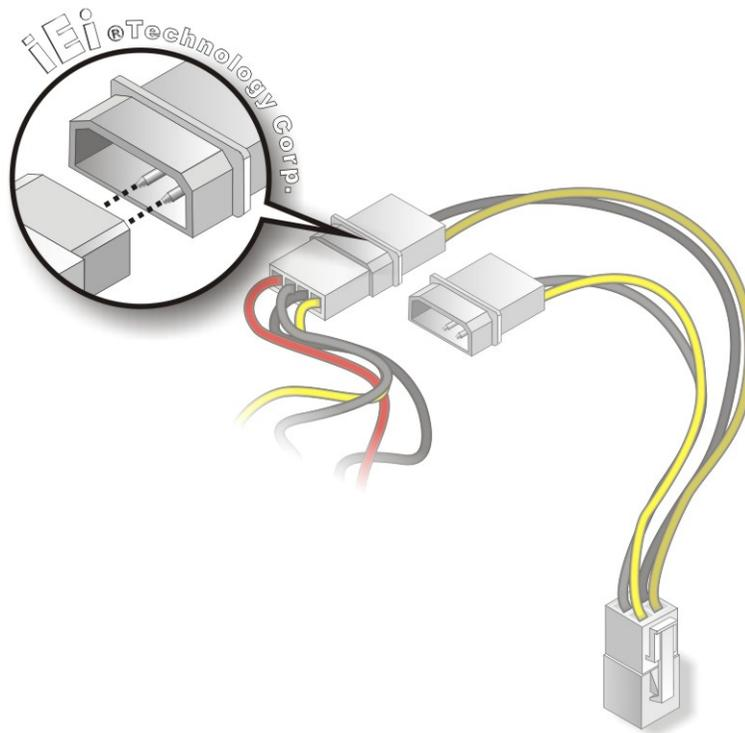

Figure 4-9: Connect Power Cable to Power Supply
Step 3: Connect Power Cable to Power Supply. Connect one of the 4-pin (1x4) Molex type power cable connectors to an AT/ATX power supply. See Figure 4-9.